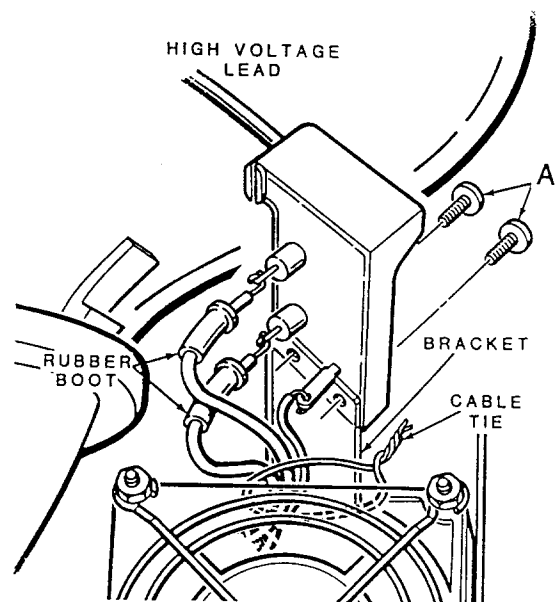

Figure 3-27. Focus and G2 Control Assembly Removal
5. Slide back the rubber boot and disconnect the wires from the focus and G2 control assembly, as shown in Figure 3-27.
6. Remove the cable tie and the two 5/16-inch philips thread-forming screws labeled A that secure the focus and G2 control to its bracket (see Figure 3-27).